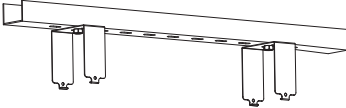

Figure 6
Step1. Mount the bracket on the rail or ceiling (Figure 6);